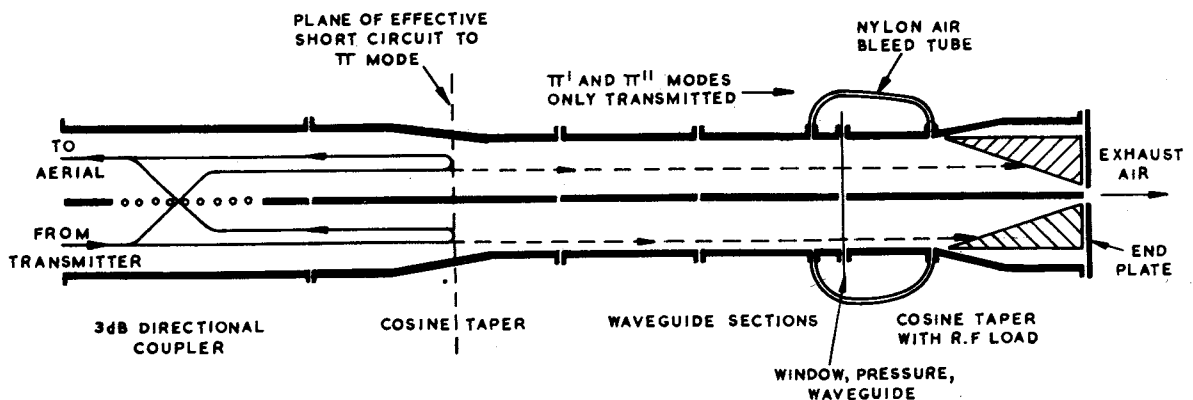

Fig. 4. Low pass filter: explanatory diagram
**13. Principle of operation.** The r.f. pulse from the transmitter divides equally at the 3dB directional coupler in the forward direction, as shown in fig. 4, the wave passing through the slot lagging the direct wave by  $90^\circ$  in phase. At a point within each cosine taper, depending on frequency, the waveguide dimension is such that it is cut-off for the  $\pi$  mode wave; at this point the  $\pi$  mode waves in each half of the taper are almost totally reflected. On reaching the coupling slot each reflected wave again divides equally, the components passing through the slot lagging the direct components by  $90^\circ$  in phase. The reflected waves will therefore add in phase in the aerial arm and cancel (through being  $180^\circ$  out of phase) in the transmitter arm. The frequency cut-off characteristic of the transfer assembly is such that all  $\pi$  mode frequencies in the operational band are reflected while at the same time the corresponding  $\pi'$  and  $\pi''$  mode frequencies are transmitted down the straight sections of reduced width waveguide to the absorbing load. The load also absorbs the highly attenuated residue of the  $\pi$  mode, approximately 30 to 35dB down on the transmitter pulse. By thus diverting signals above 1400 Mc/s to the loads, a match has been presented to the magnetron at these frequencies. Effectively a series pad of approximately 20dB has been introduced against system mismatches above 1400 Mc/s.